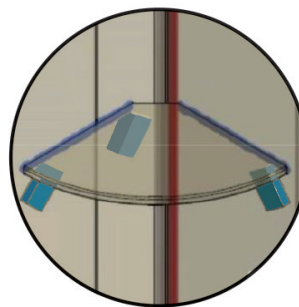

FIG 33.
- Carefully place shelf on stabiliser blocks and gently push into corner. Check for level (FIG 33).